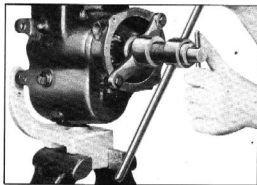

Fig. 12—Installing Mainshaft
- Turn the tool handles counterclockwise until the mainshaft is seated in the rear bearing, Fig. 12. The proper seating of the shoulder on the shaft against the inner race of the bearing may be determined by checking the end play of the second speed gear which should be approximately .010".